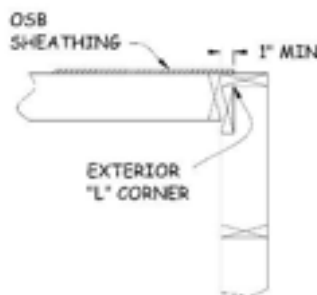

Figure 3-7. Exterior L-Corner.
5. At each end of the long walls, layout an L-corner with two 2x6 studs made up of the normal 2x6 end stud plus an extra 2x6 stud perpendicular to the end stud on the interior side of the wall (see Figure 3-7). Mark the "L" as "Corner Down" to specify that the extra 2x6 will lay face down on the deck as the wall is being built. This will place the existing 2x6 stud facing the end of the adjoining short wall forming an inside corner.